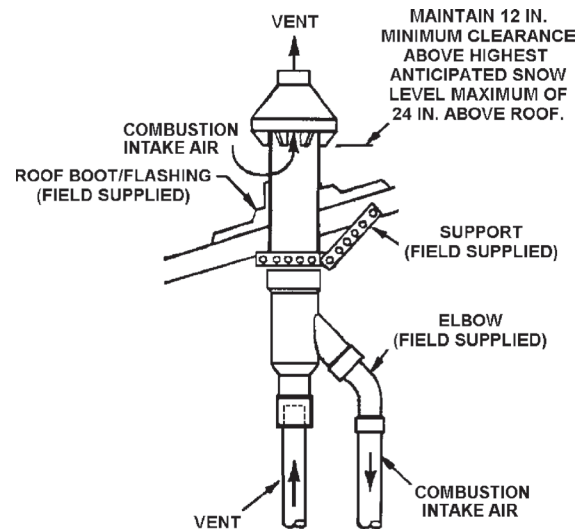

Figure 28
5. Secure assembly to roof structure as shown in Figure 28 using field supplied metal strapping or equivalent support material.
NOTE: Ensure termination height is above the roof surface or anticipated snow level as shown in Figure 28.